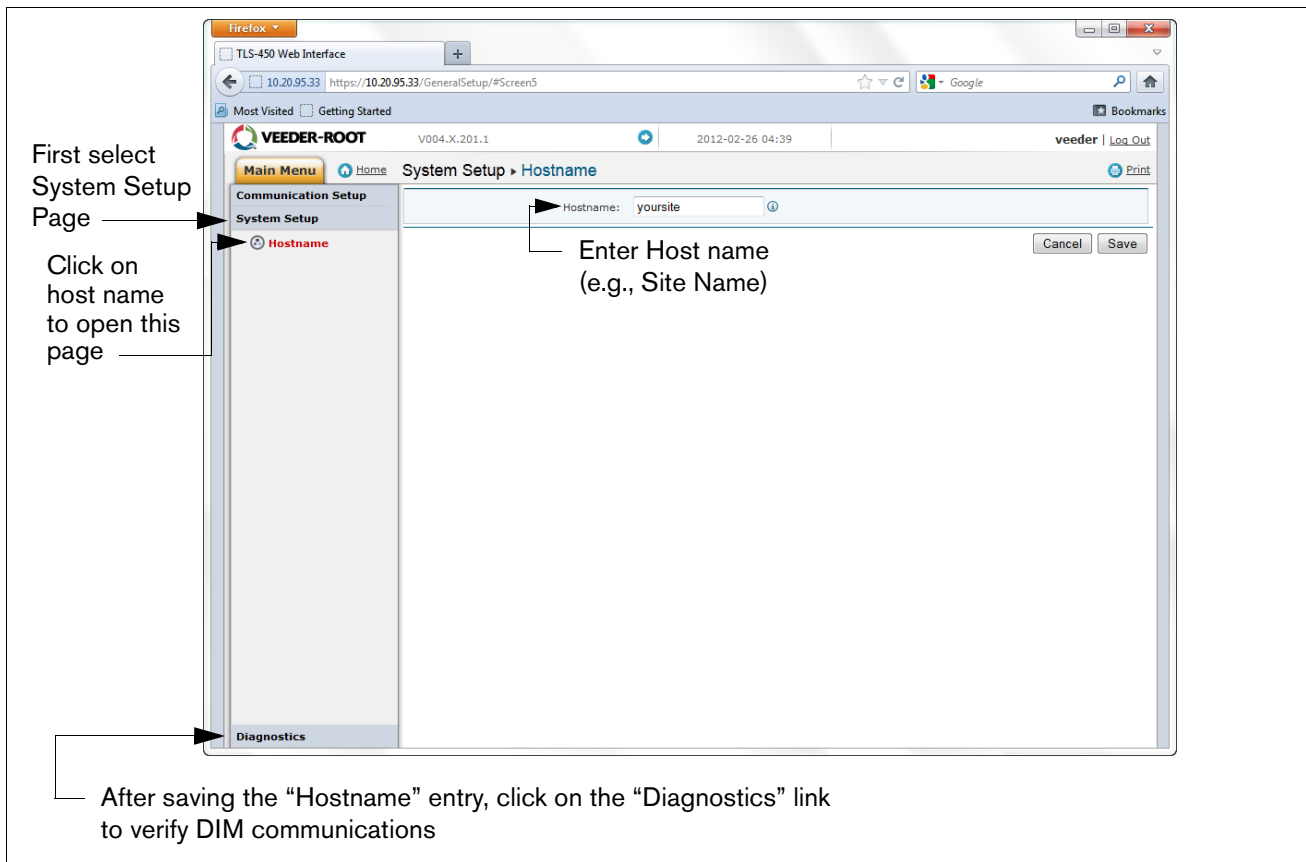

Figure B-9. Entering Host name
11. Select the “System Setup” page and type in the Host name and then click the “Save” button (see example in Figure B-9). It is recommended that you use the network name assigned by the network administrator or some other name that identifies the location. While on this page click the Diagnostic Page link (bottom Left).